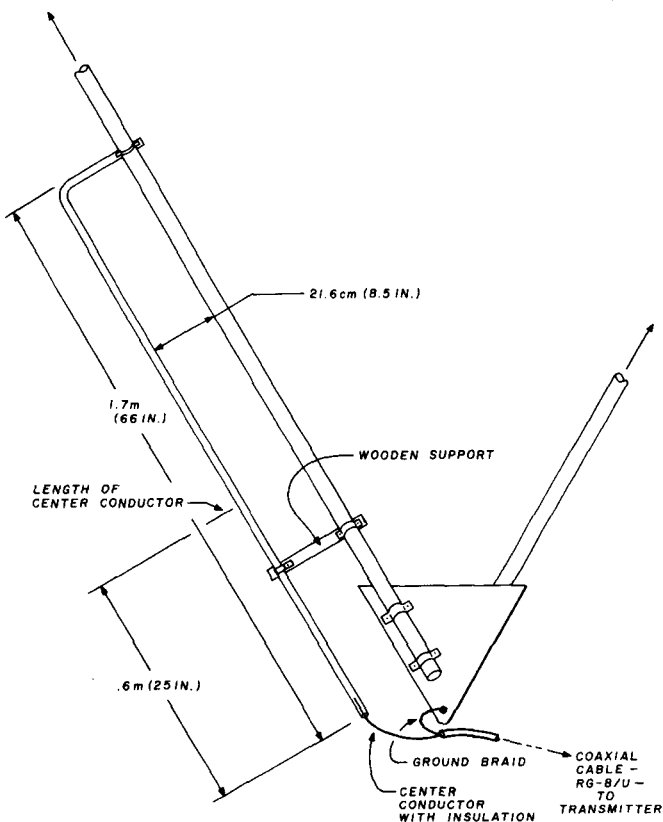

fig. 6. Details of the gamma match for feeding the delta loops.
Fix the boom to the mast and tighten all the clamps securely. Then, with someone to help support the boom, insert one leg at a time into the end plate and tighten the securing clamps. After both legs are in place, the completed element will be well-balanced and self-supporting. Finally, move the other end of the boom and complete assembly of the other element. The basic antenna is now complete, and all that remains is to add the gamma match assembly shown in **fig. 6**.
Having compensated for reactance at the output end of the network, the second step is to transform the remaining resistance to 50 ohms. A network containing inductance and capacitance is capable of doing this because for any series circuit containing  $R_s$  and  $X_s$ , fig. 6, there exists an equivalent parallel circuit containing  $R_p$  and  $X_p$  where in general  $R_p$  is different from  $R_s$ .
**fig. 6.** Equivalence of series and parallel circuits containing resistance and reactance. The equivalent element values may be determined from the relationship  $X_s/R_s = R_p/X_p$ .